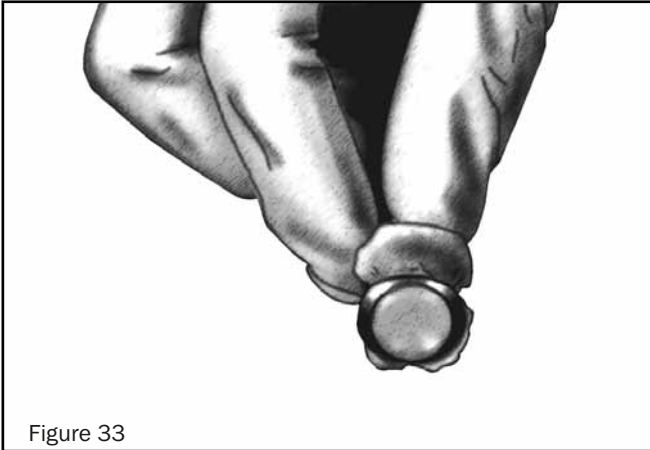

Figure 33
C. Insert the Phalangeal Base, orienting the flat edge towards the plantar surface of the proximal phalanx (Figure 33).